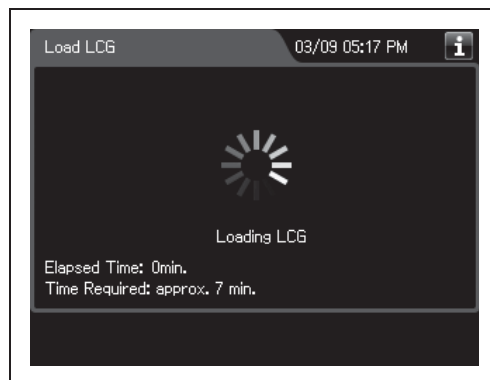

Figure 8.34
- Preparation of disinfectant solution includes single rinse process to rinse the reprocessing basin. While executing the preparation of disinfectant solution, buzzer beeps intermittently and the main control panel displays as shown in Figure 8.34. STOP button is deactivated during the process.